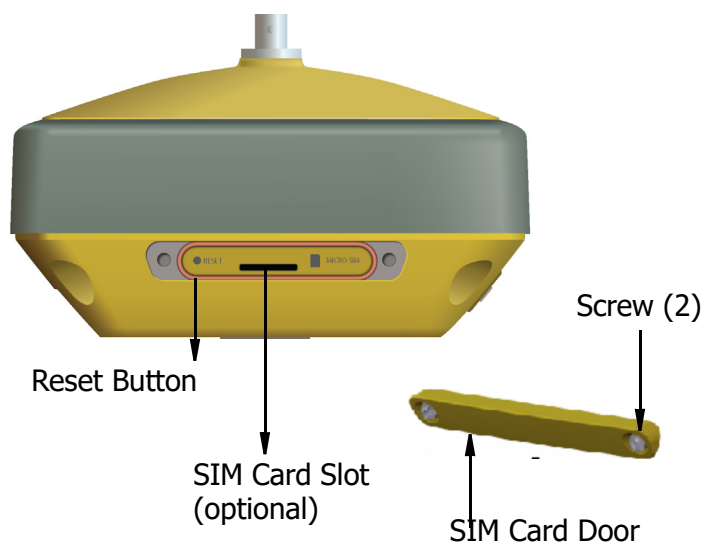

Figure 2-5: Removing the SIM Card Door
The **SIM Card Door** (Figure 2-5) is located to the left of the LED Display Panel. To remove the **SIM Card Door** from the HiPer VR use a use a flat blade screwdriver and remove the two **Screws**. The **Reset Button** is located under the **SIM Card Door**. For the HiPer VR receivers with Cellular Module(s) installed, the **SIM Card Slot** is located there too.
1. Remove the **SIM Card Door** using a flat blade driver to remove the two **Screws** (Figure 2-5)